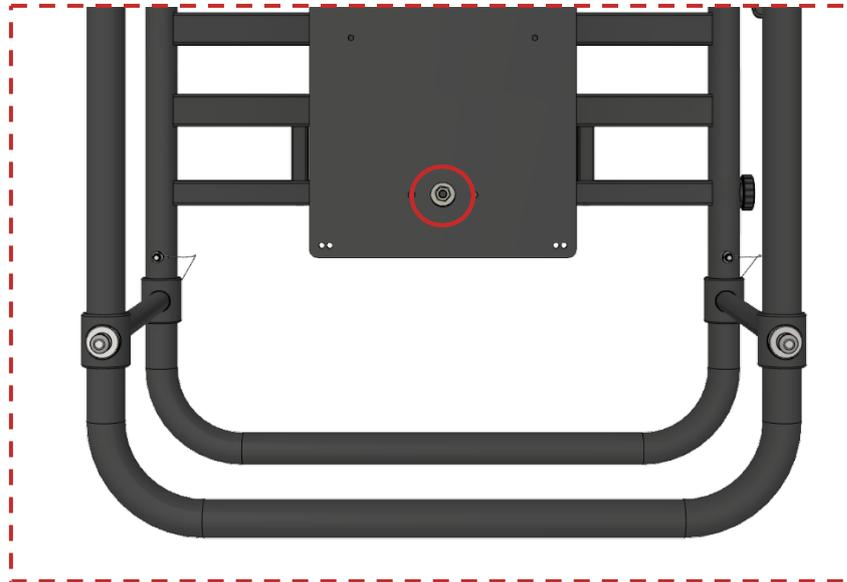

Figure 19 Nut on centre top side which is sealed with red colour wax
- On the three screws + nuts presented on the above two pictures (Figure 17 and Figure 19) red color sealing wax was applied to be sure that the nuts will always be on the same position and no one will try to tighten or loose them.
Except for the three nuts described on the previous section (see Figure 17 and Figure 19), please control, with corresponding tool, that all the other screws are properly tightened.